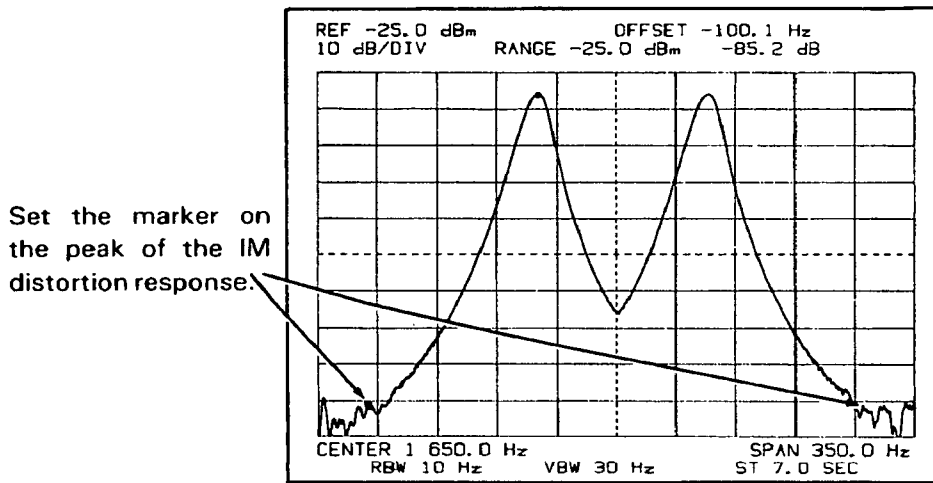

Figure 4-24. IM Distortion Response.
- h. Watching the offset frequency in the upper right-hand corner of the 3585A display, move the marker until the frequency reads -100 Hz \pm 1 Hz (see Figure 4-24).